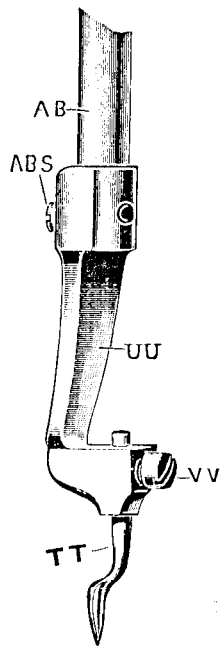

FIG. 18
Should it be necessary to remove piercer (TT, see Fig. 18) it is preferable to detach holder (UU) at screw (ABS).